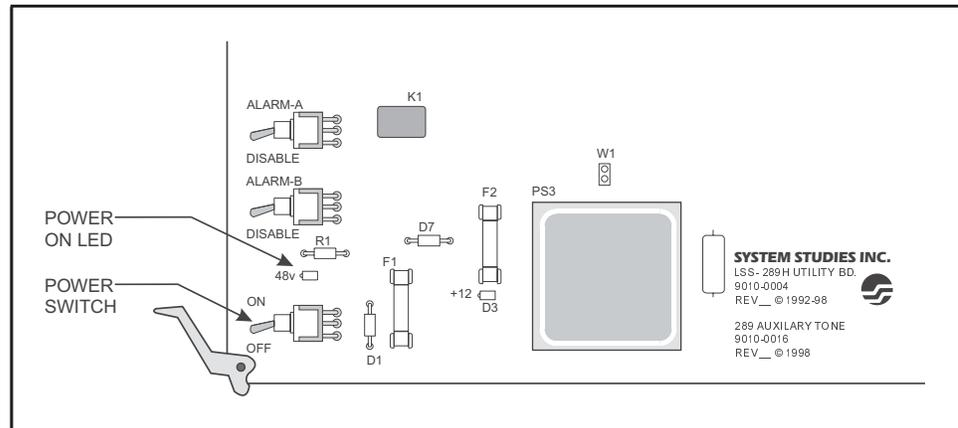

Figure 1 - Power Switch on Utility Card
- 1) Make sure that power to the 289H LSS is turned OFF before you install the relay cards. The power switch is located in the lower left corner of the Utility Card (see Figure 1).
- 4) Once the SPDR cards have been connected and configured, turn the main power switch on the Utility Card to the ON position (see Figure 1). A “power on” LED, located above the power switch, indicates whether power is being supplied.